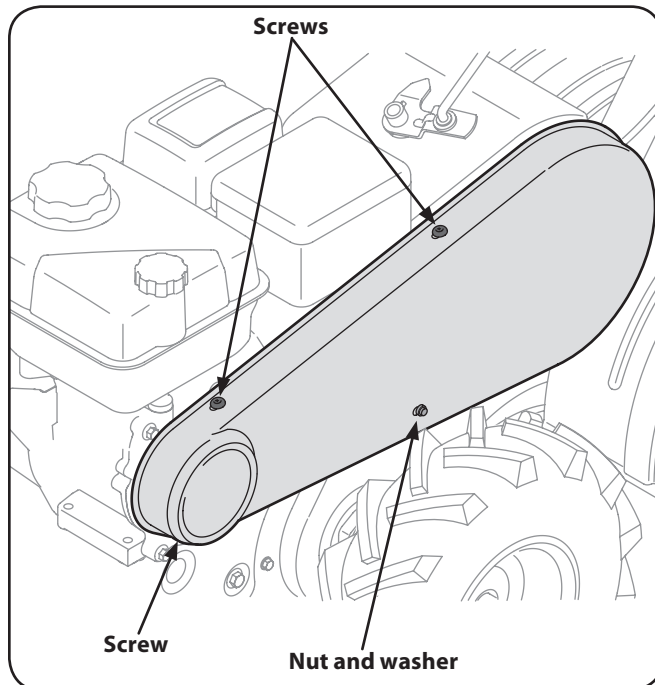

Figure 7-1
2. Remove the belt cover from the left side of the tiller by removing the two screws from the top of the belt cover. See Fig. 7-1.
3. Remove the nut and washer from the front side of the belt cover. Remove the hex head screw at the back of the cover. See Fig. 7-1.